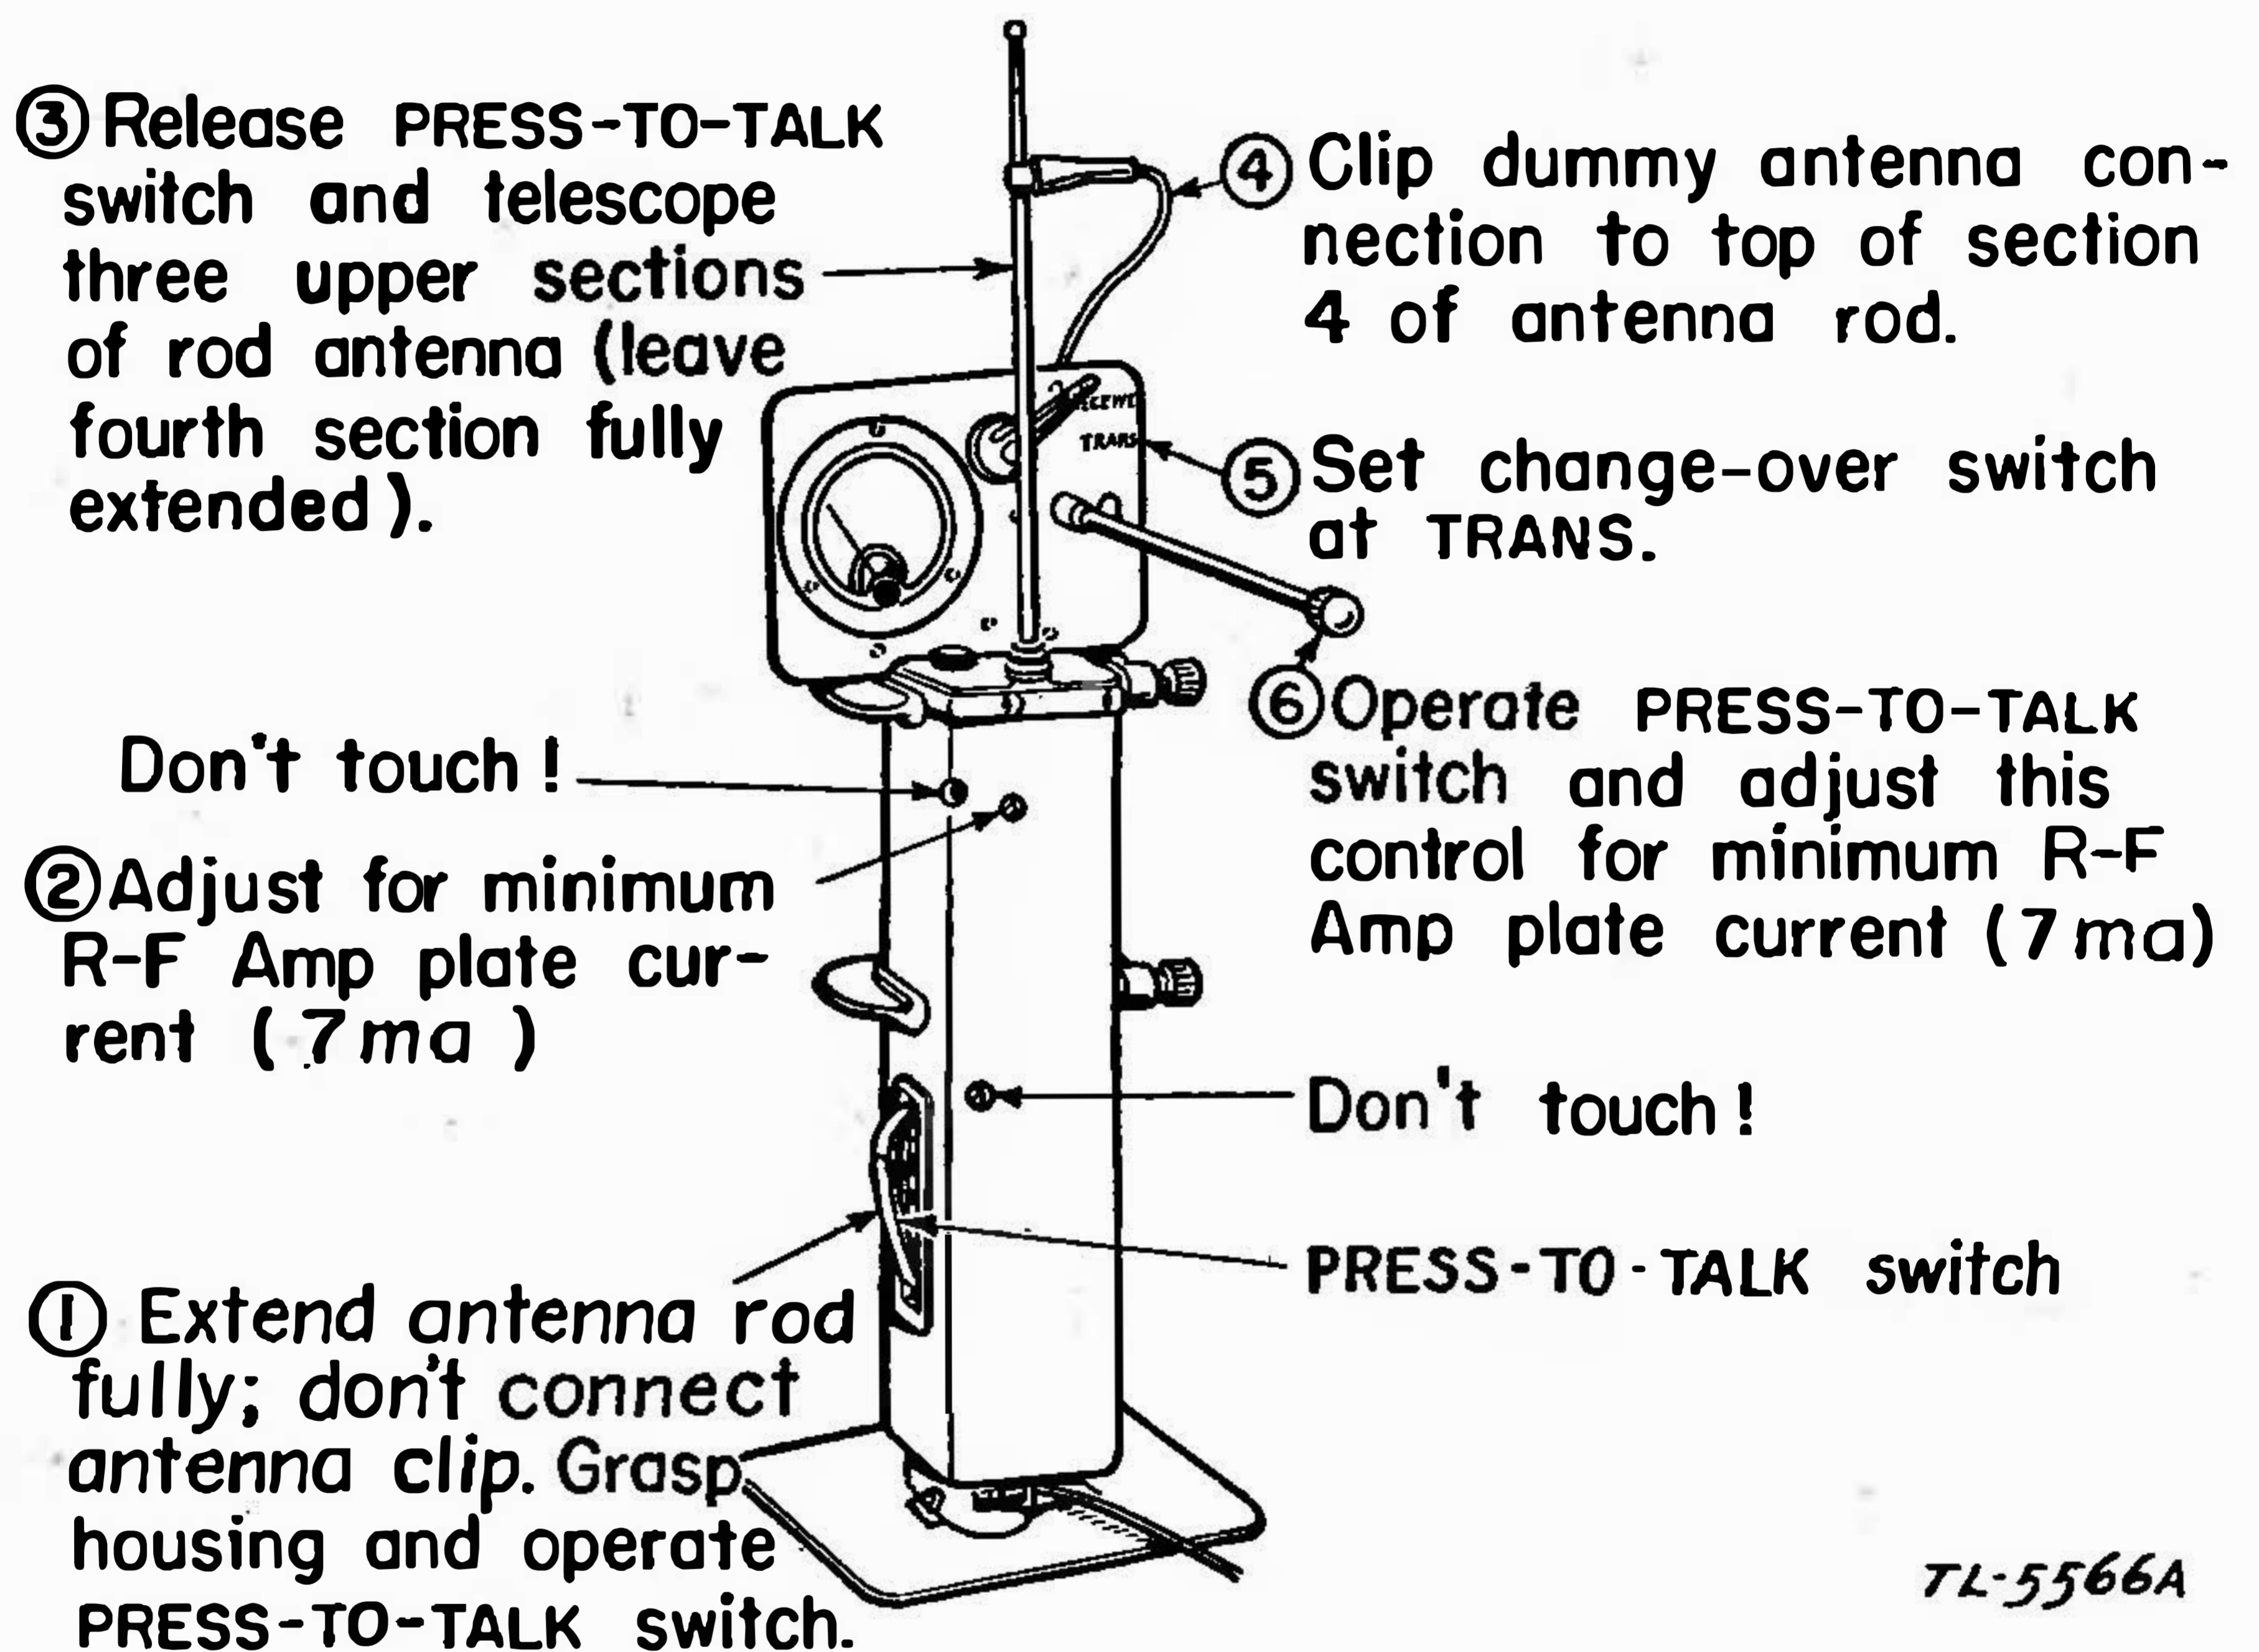

FIGURE 12.—Transmitter presetting adjustments.
e. Telescope the upper three sections of the antenna rod, leaving only the bottom or fourth section fully extended from the housing. Clip the *dummy antenna connection* to the upper part of the antenna rod. (See fig. 12.) Set the *antenna change-over switch* on the panel of test stand FT-252-(\*). to TRANS. position, and then, still
(1) Using the small screw driver, adjust the *transmitter tank adjustment* screw for *minimum* current reading on the 15-milliamperemeter. The normal reading is approximately 7 milliamperes. See figures 12 and 14 for location of the *transmitter tank adjustment* screw. Release the press-to-talk switch.
(2) Telescope the upper three sections of the antenna rod, leaving only the bottom or fourth section fully extended from the housing. Next, clip the *dummy antenna connection* to the upper part of the antenna rod. (See fig. 12.) Set the *antenna change-over switch* on the panel of test stand FT-252-(\*) to TRANS. position.
(3) Connect the microphone provided with the test set to the M and G terminals of the test harness. The braided lead goes to the G terminal.
(4) Grasp the test case and depress the press-to-talk switch again. Using the insulated shaft extension, adjust the *dummy antenna capacitor control* for *minimum* current reading on the 15-milliamperemeter. The reading should be approximately 7 milliamperes. This adjustment of the dummy antenna capacitance for minimum power amplifier plate current is necessary to compensate for the change in antenna capacitance due to telescoping the upper three sections of the